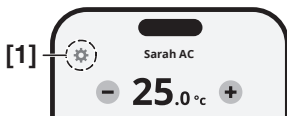

Fig. 1
1. Tap [1] “ ⚙ ” from the menu. Fig. 1